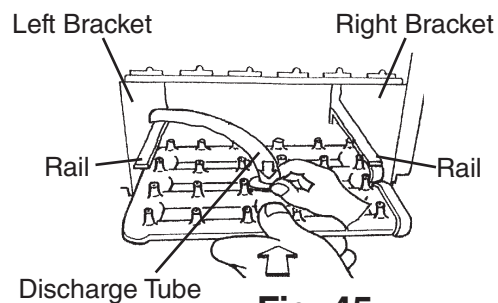

Fig. 45
- 12) Slide in the spray assembly along the rails on the left and right brackets. See Fig. 45. Connect the discharge tube securely to the spray assembly; a loose fitting may cause a water leak.